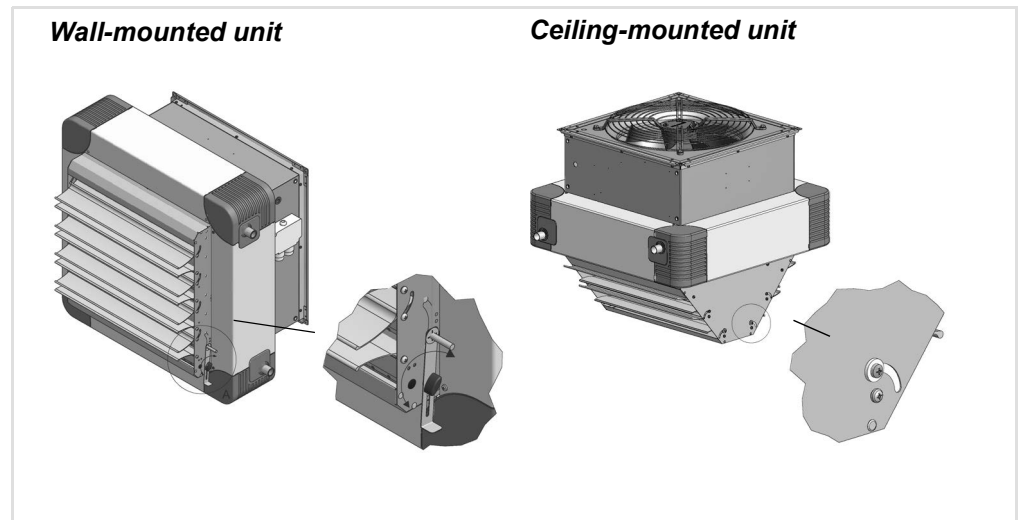

Fig. 7-2: Manual adjustment of the secondary louvre
- For manual adjustment see Fig. 7-2